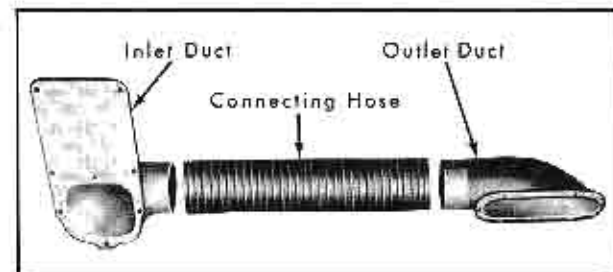

Fig. 3-14 Door Heater Duct Assembly
4. Working through larger loading hole, disconnect hose from smaller loading hole cover and remove cover from door. Fig. 3-14 shows the connecting hose and inlet and outlet assembly removed from the door.